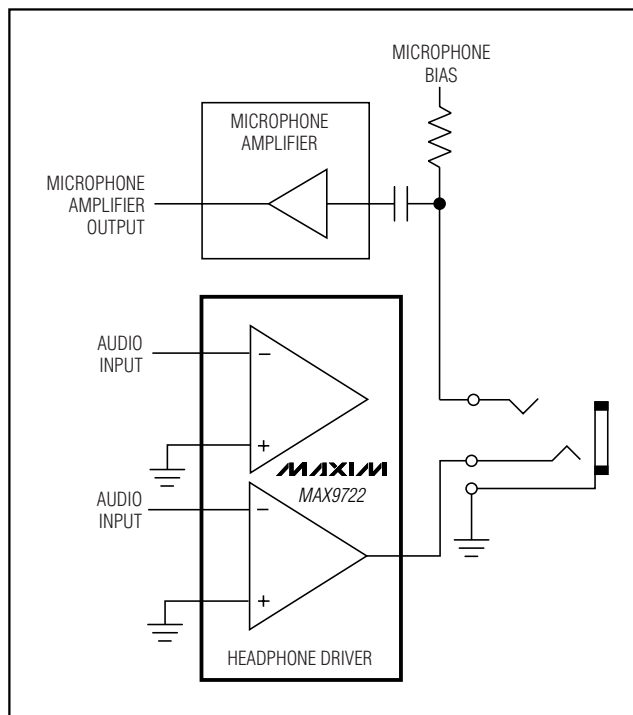

Figure 3. Earbud Speaker/Microphone Combination Headset Configuration
- When using a combination microphone and speaker headset, the microphone typically requires a GND reference. The amplifier DC bias on the sleeve conflicts with the microphone requirements (Figure 3).